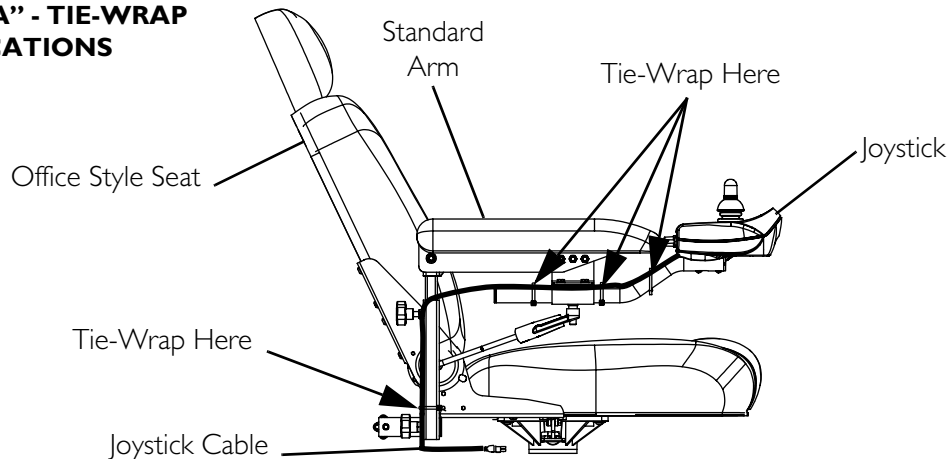

FIGURE 13.1 Removing/Installing the Joystick
NOTE: For this procedure, refer to FIGURE 13.1 on page 121.
3. Loosen the adjustment lock lever to release the joystick mounting tube from the mounting bracket. Refer to FIGURE 13.1.
3. Tie-wrap the joystick cable to the arm as shown in FIGURE 13.1.